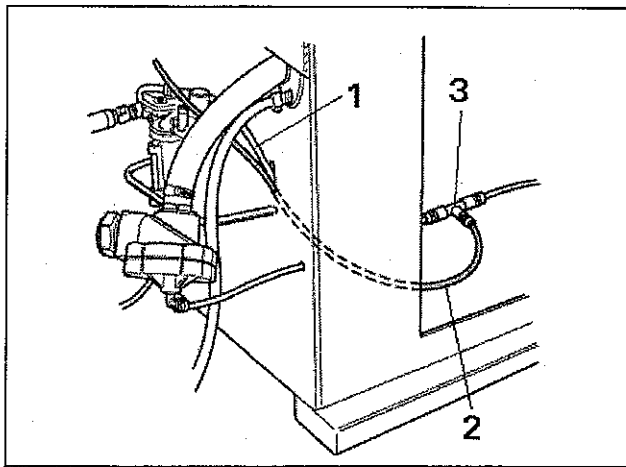

Fig.8
- B. Cut the air pipe emerging from the filter (#1 Fig.8), insert the fitting (#2 Fig.8) in the cut pipe and connect the air pipe to the device #3 as shown in Fig. 8.